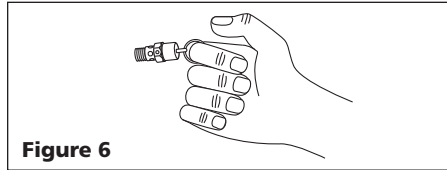

Figure 6
2. Wearing safety glasses, pull the ring on the safety valve (see Figure 6) to release pressure from compressor
2. Pull ring on safety valve and allow it to snap back to normal position (Figure 6).